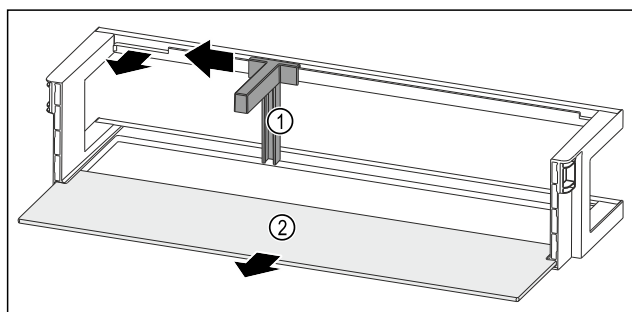

Fig. 199 Door rack with bottle holder and shelf
- Slide the bottle holder Fig. 199 (1) to the side as far as the recess.
- Remove the bottle holder Fig. 199 (1).
- Remove the shelf Fig. 199 (2).